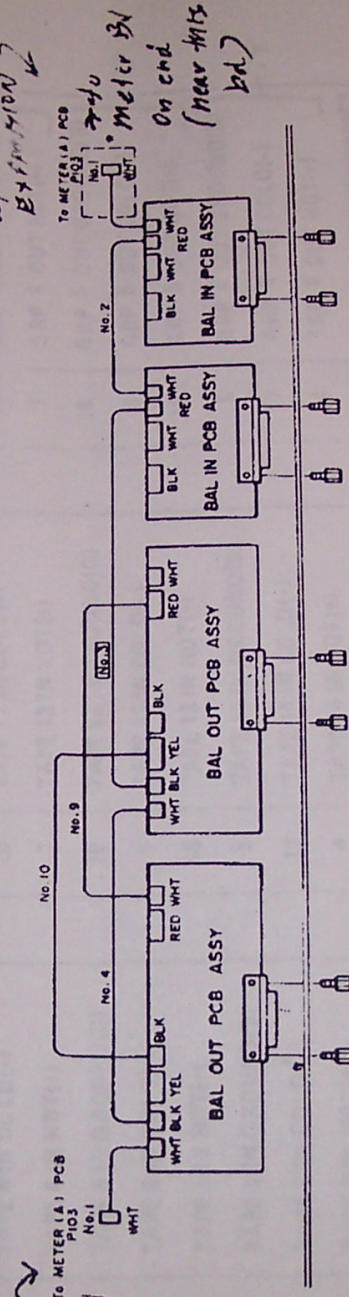

FIG. 8
6. Refer to Figure 8. Using the hexagonal nut screws removed in step 5, attach the BAL IN and OUT PCB assemblies to the console's rear panel.
7. Connect the no. 3 wire coming out of one of the BAL OUT PCB assemblies to the next BAL IN PCB as shown in Figure 8. Then, perform either of the following:
*If the MU-3532/3524 meter expansion unit was NOT mounted, plug the no. 1 wire coming out of the other BAL OUT PCB into P103 on the METER (A) PCB as shown in the figure.*
*If the meter expansion unit was mounted, unplug the no. 1 wire from the BAL OUT PCB assembly, and, as shown in the figure, connect it to the WHT terminal on the BAL IN PCB assembly and the other end of the wire to P103 on the METER (A) PCB assembly.*